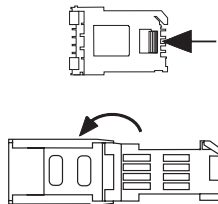

Figure 2
- 3 Open the lid of the SIM card holder (figure 2) on the module of your TC Plus GSM by moving the snap-fit (arrow) to the left.